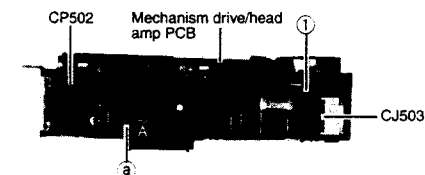

Fig. 9
1. Remove one screw ① to remove the mechanism bracket. (Fig. 9)
2. Remove the connector CP502 Mechanism drive/head amp PCB and head relay PCB. (Fig. 9)
3. Shift the interlocking section ③ securing the mechanism drive/head amp PCB in the direction shown by the arrow A to remove the Mechanism drive/head amp PCB. (Fig. 9)
4. Remove the connector CJ503 connecting Mechanism drive/head amp PCB and head relay PCB. (Fig. 9)